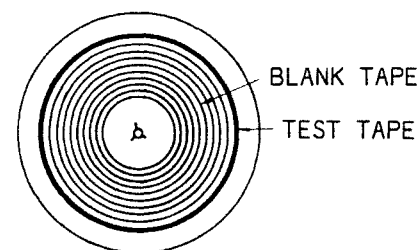

Figure 7-2 Test Tape Loading
Since tape tension affects tape speed, it is important for accurate measurement that the flutter test tape used is attached to the end of a full wound reel of blank tape as shown in Figure 7-2, and is used with the REEL pushbutton set to the appropriate reel size.
4. Attach the test tape to a 10 1/2 inch NAB reel as shown in Figure 7-2, place the test tape on the supply reel table, thread the tape, and set the REEL switch to the "OUT" LARGE position.
It is important that the f I utter test tape used is attached to the end of a full wound reel of blank tape as shown in Figure 7-2, and is used with the REEL pushbutton set to the appropriate reel size.